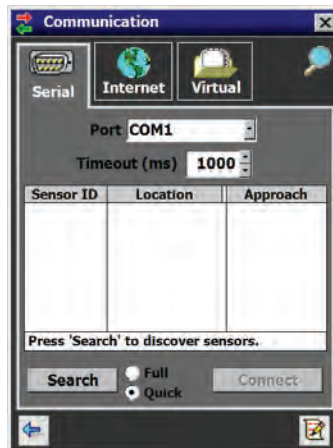
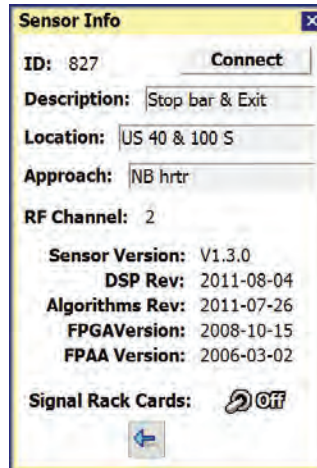

Figure 5.4 – Serial Connection
Figure 5.5 - Sensor Info Screen
- 6 Click on the desired sensor row from the list to select a sensor (see Figure 5.4). The sensor list shows the sensor ID, location, and approach of each discovered sensor.
Once you have selected a sensor from the device list, you can click again on that row to bring up a Sensor Info pop-up (see Figure 5.5). To bring up the Sensor Info pop-up, you can also click on the sensor icon that appears in the upper right corner of the screen (see Figure 5.4). The information in the Sensor Info screen cannot be edited.